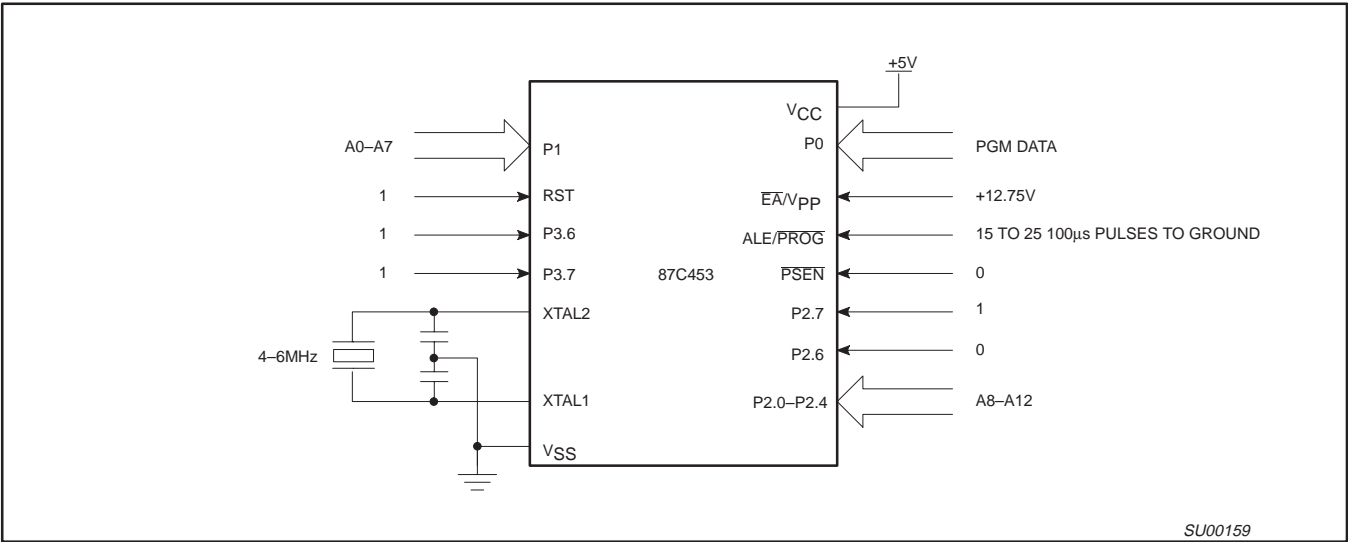
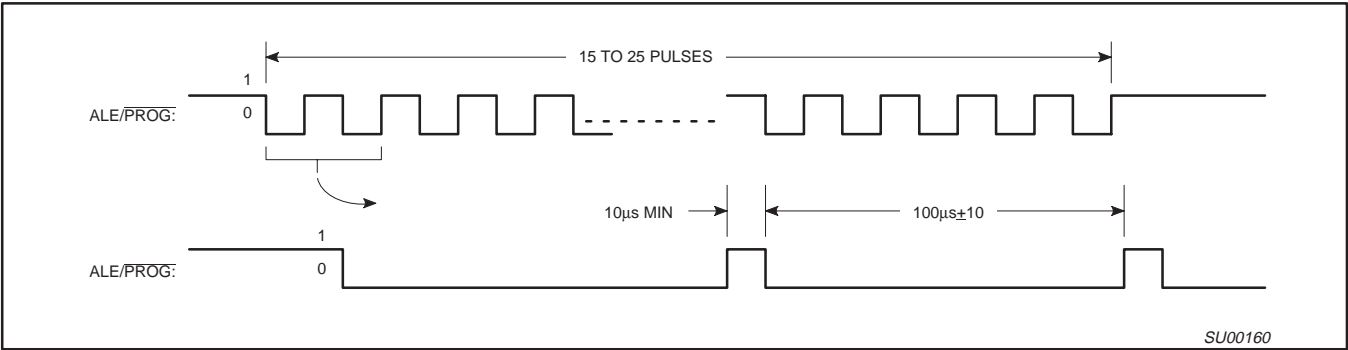
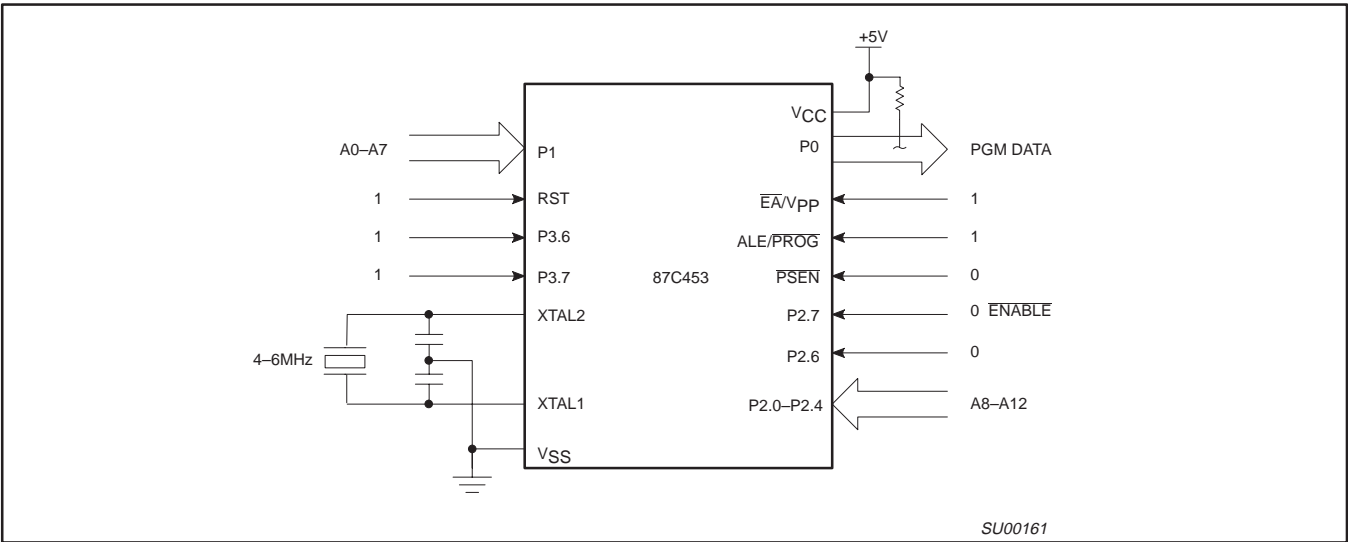

Figure 25. Programming Configuration
Figure 26. PROG Waveform
Figure 27. Program Verification
Table 5 shows the logic levels for reading the signature byte, and for programming the program memory, the encryption table, and the lock bits. The circuit configuration and waveforms for quick-pulse programming are shown in Figures 25 and 26. Figure 27 shows the circuit configuration for normal program memory verification.
The setup for microcontroller quick-pulse programming is shown in Figure 26. Note that the 87C453 is running with a 4 to 6MHz oscillator. The reason the oscillator needs to be running is that the device is executing internal address and program data transfers.
The address of the EPROM location to be programmed is applied to ports 1 and 2, as shown in Figure 25. The code byte to be programmed into that location is applied to port 0. RST, \overline{PSEN} and pins of ports 2 and 3 specified in Table 5 are held at the 'Program Code Data' levels indicated in Table 5. The ALE/PROG is pulsed low 15 to 25 times, as shown in Figure 26.
If lock bit 2 has not been programmed, the on-chip program memory can be read out for program verification. The address of the program memory locations to be read is applied to ports 1 and 2 as shown in Figure 27. The other pins are held at the 'Verify Code Data' levels indicated in Table 5. The contents of the address location will be emitted on port 0. External pull-ups are required on port 0 for this operation.
- * FOR PROGRAMMING VERIFICATION SEE FIGURE 25.
FOR VERIFICATION CONDITIONS SEE FIGURE 27.